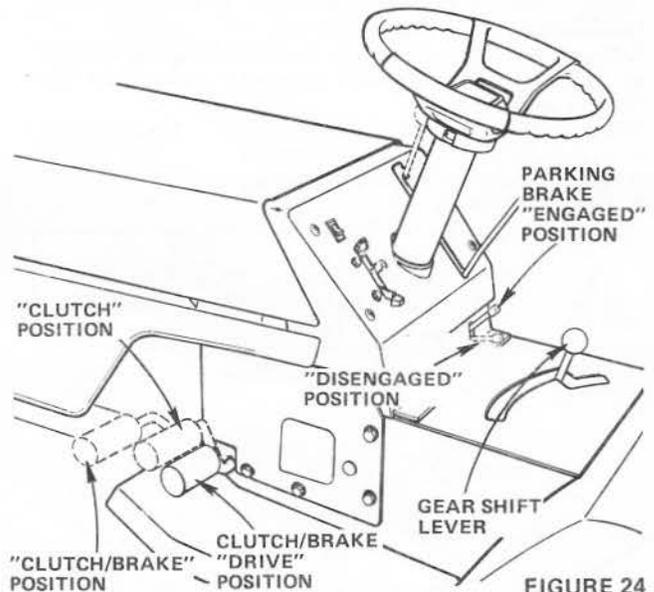

FIGURE 24
3. Move Gear Shift Lever to "1ST" Gear (Fig. 24).
NOTE: ALWAYS OPERATE ENGINE AT FULL THROTTLE WHEN MOWING TO ASSURE BETTER MOWING PERFORMANCE, LONG ENGINE LIFE AND PROPER DISCHARGE OF CUT MATERIAL. REGULATE GROUND SPEED BY SELECTING A LOW ENOUGH GEAR (FIG. 24) TO GIVE THE MOWER CUTTING PERFORMANCE PLUS QUALITY OF CUT DESIRED.
3. Place Parking Brake in "ENGAGED" position. Raise Parking Brake Lever and hold in "ENGAGED" position (Fig. 24). Release Clutch-Brake Pedal.
For pushing or towing your tractor, place Gear Shift Lever in "NEUTRAL" position (Fig. 24). Push Clutch-Brake Pedal down firmly to "DISENGAGE" Parking Brake (Fig. 24). NOTE: DO NOT TOW YOUR TRACTOR FASTER THAN SIX MILES PER HOUR.